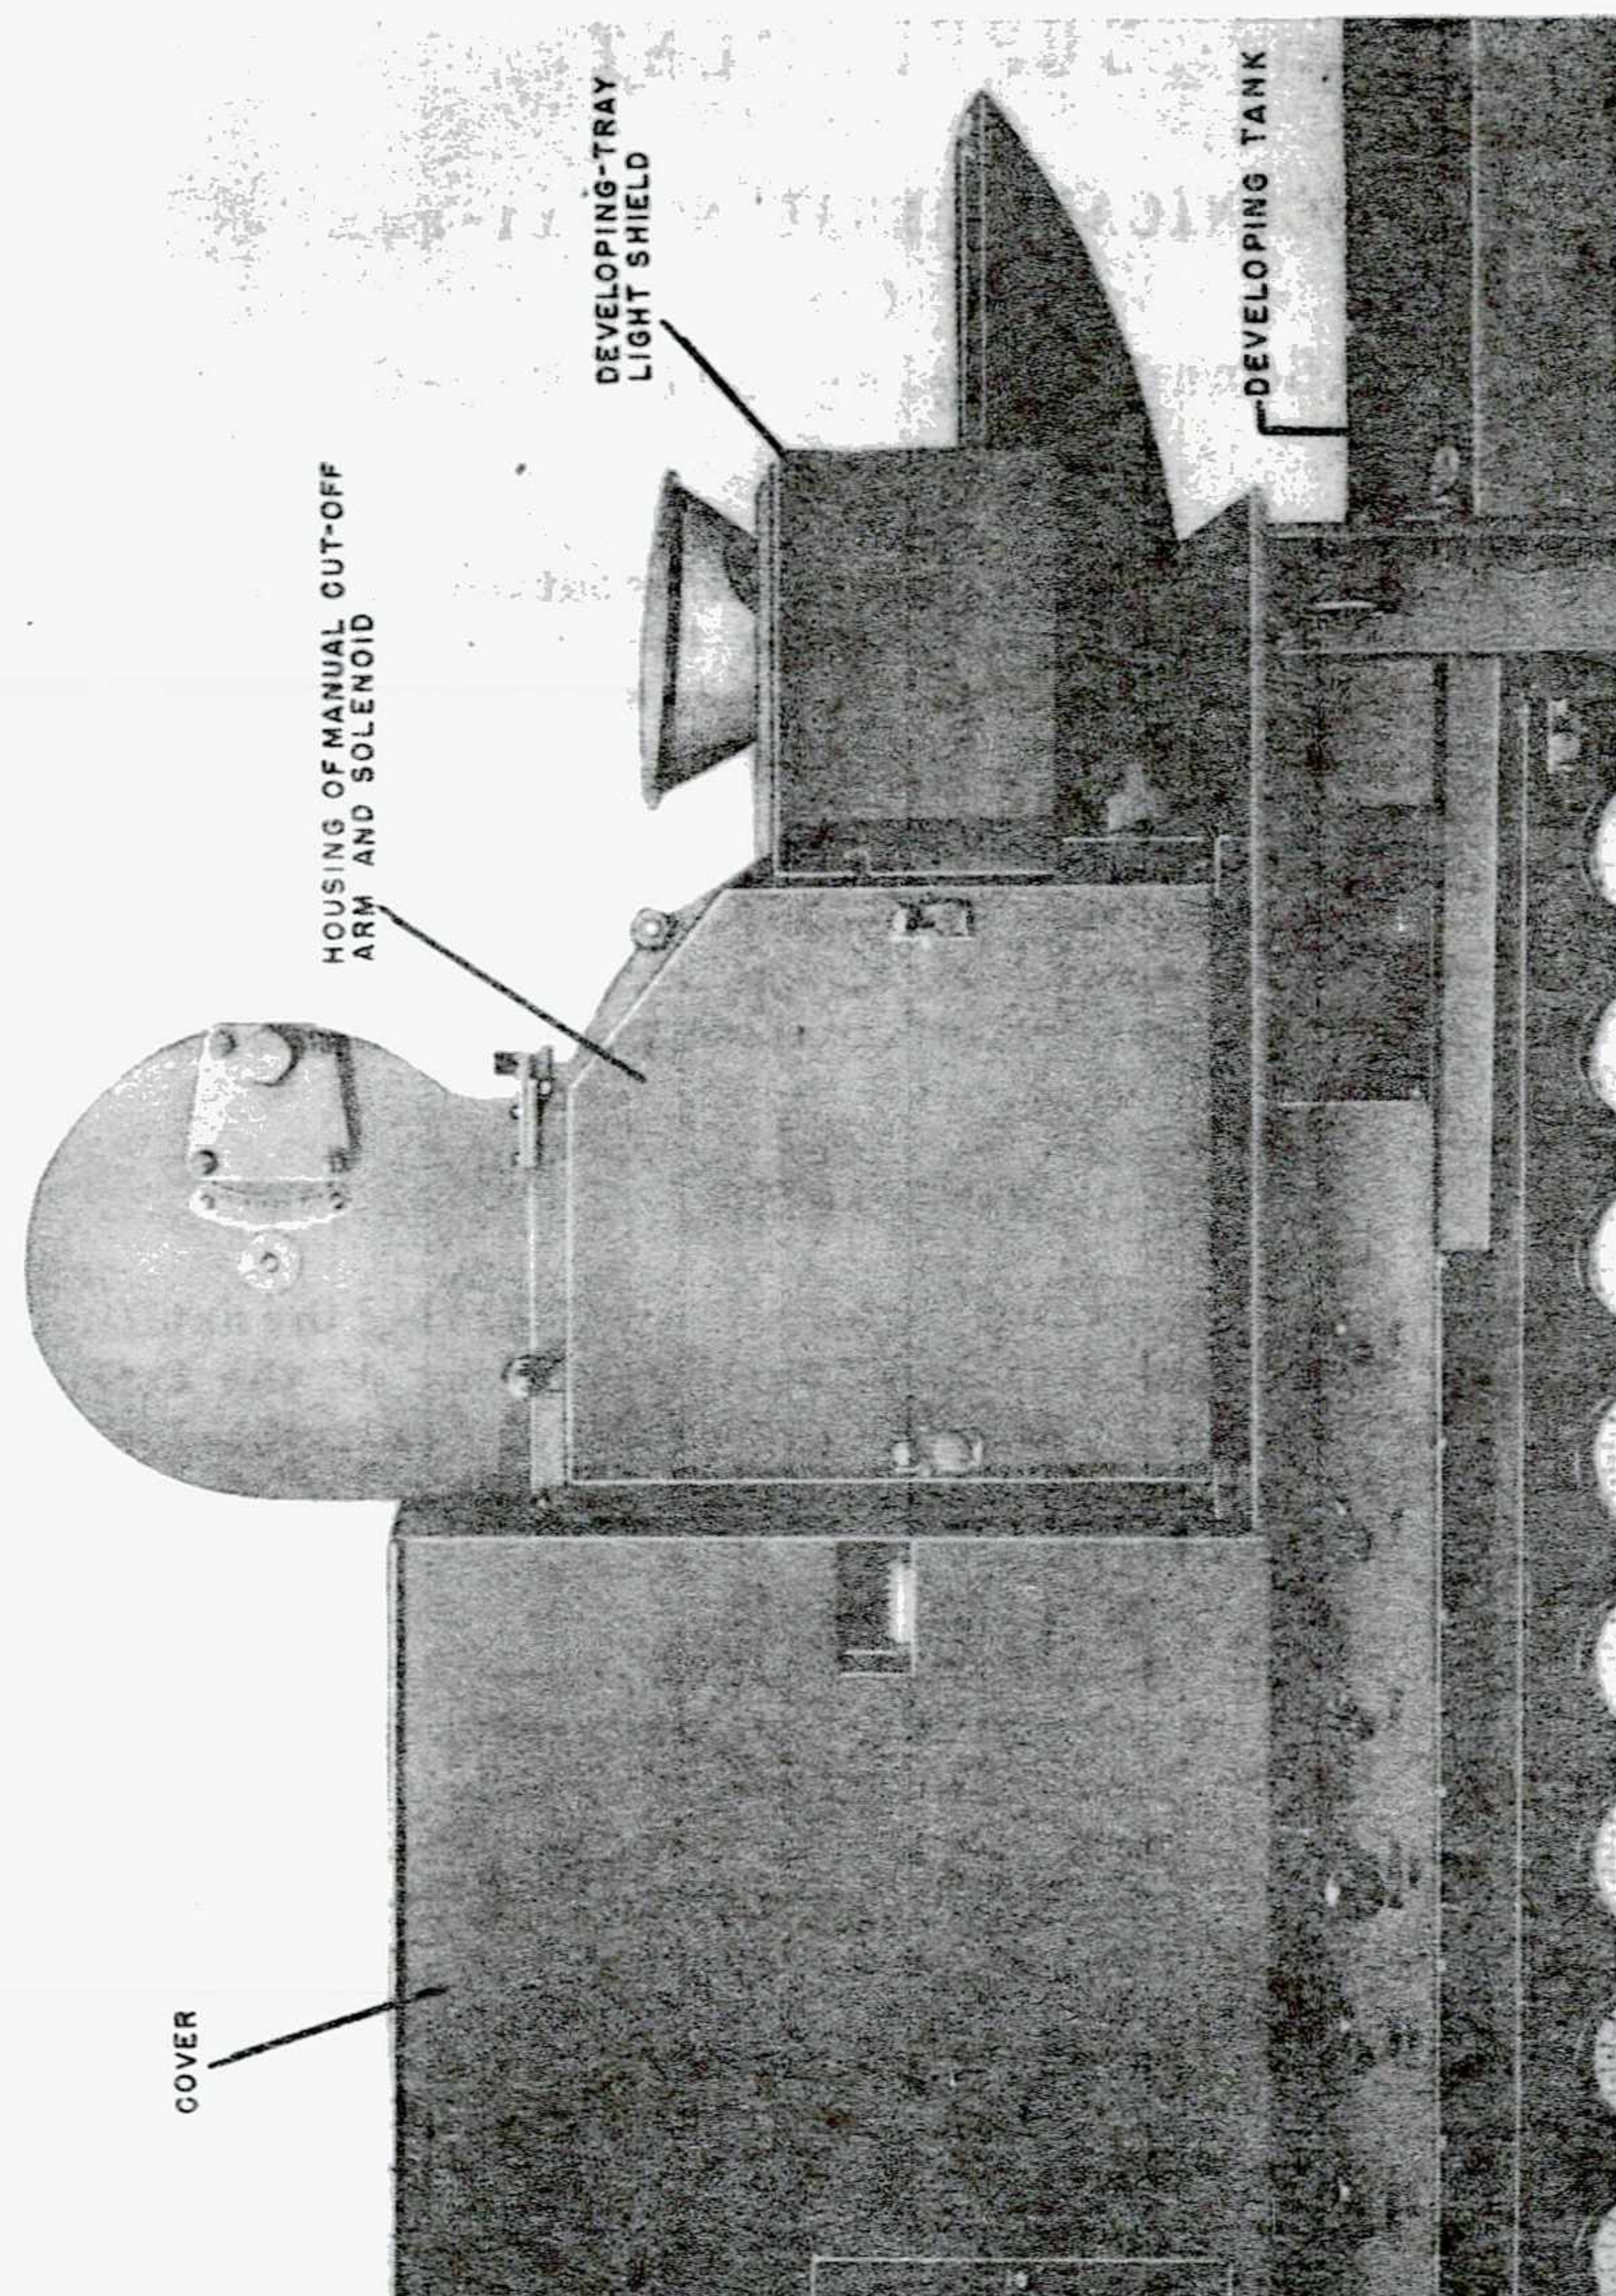

FIG. 20 OSCILLOGRAPH EQUIPMENT IE-14-(*) , FRONT VIEW SHOWING CAMERA
Page 2	Add Figures 20 to 25 inclusive
a. First, remove the protective covers: (See Fig. 20)
- (1) The large one covering the entire left side of the set.
- (2) The housing covering the manual cut-off arm and the solenoid.
- (3) The developing-tray light-shield.
- (4) The light shield to the left of the galvanometer unit.